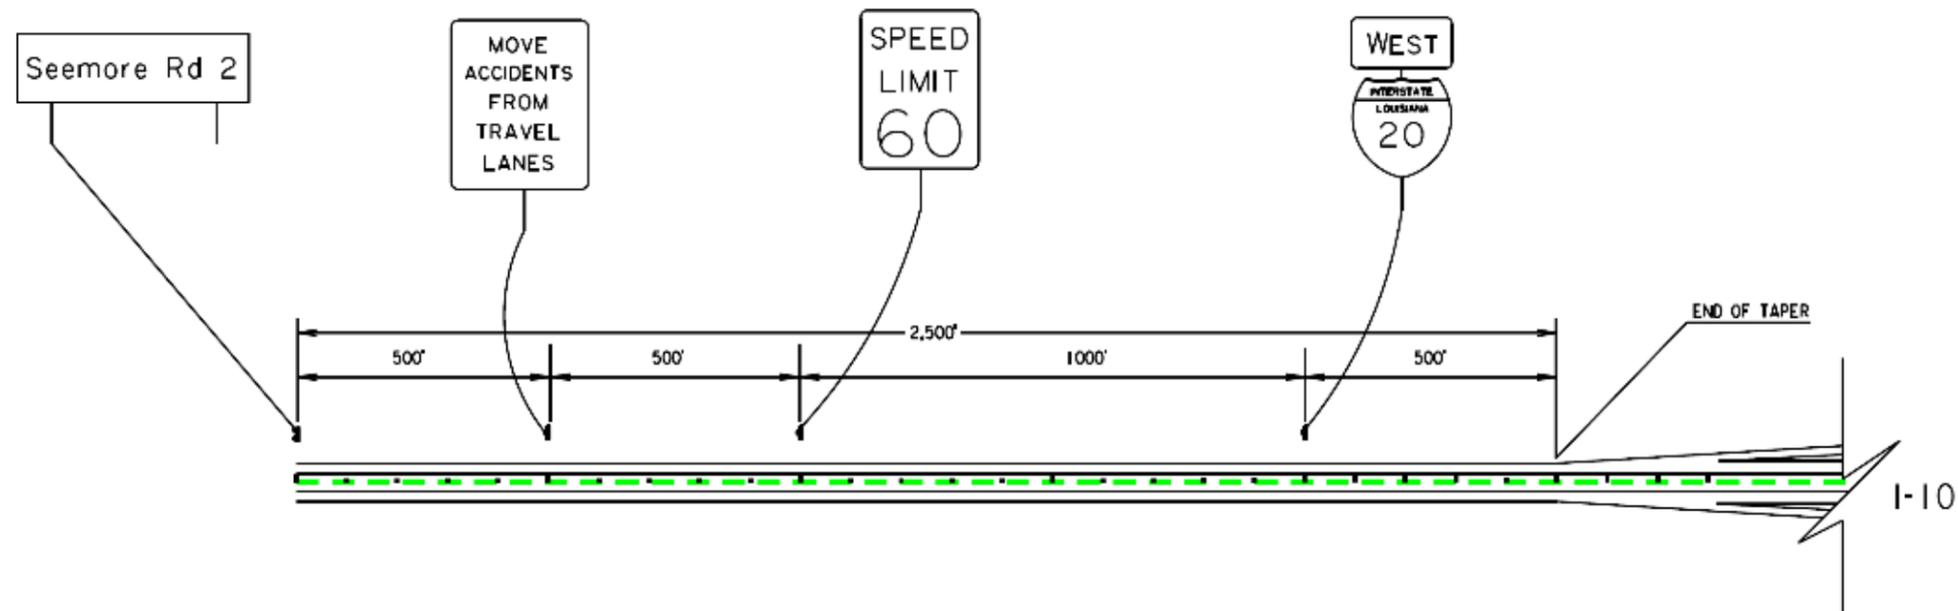

Figure 3-6: Signing for Urban Interstate Interchange Series
- Double for roadways with 3 or more lanes **(See Figure 3-6: Signing for Urban Interstate Interchange Series)**
- Urban Areas – shall be placed 500 feet beyond the Speed Limit Sign on the right side **(See Figure 3.6)**